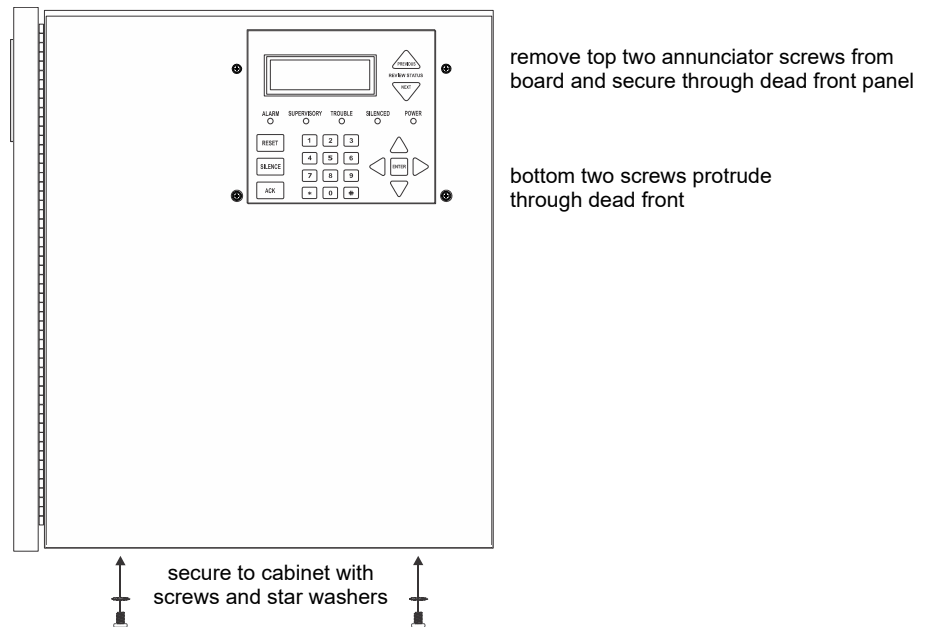

Figure 4.2 Dead Front Installation and Removal
1. Remove the top two screws which secure the annunciator to the board. Leave the bottom two screws installed. See Figure 4.2 for annunciator screw location.
1. Remove the top two annunciator screws. See Figure 4.2 for location.